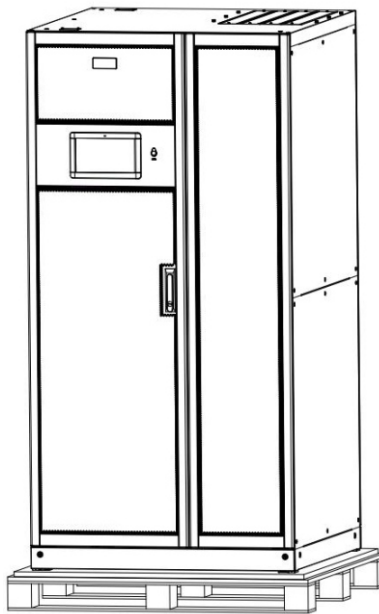

Figure 3-5 Remove the protective foam
**Step 4:** Remove the protective foam around the cabinet as Figure 3-5;